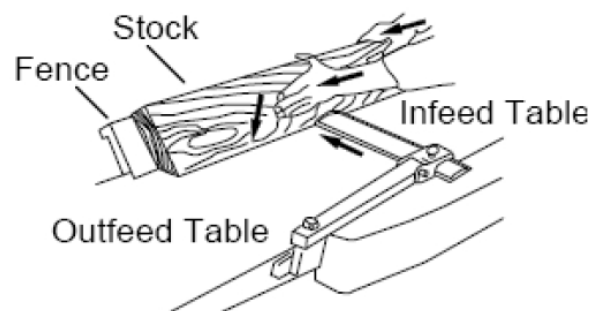

Fig. 24: Beveling process:
Step 5: Feed the stock through the cutter head, making sure the face of the stock is completely flat against the fence and the edge is making solid contact on the infeed and outfeed tables (Figure 24).